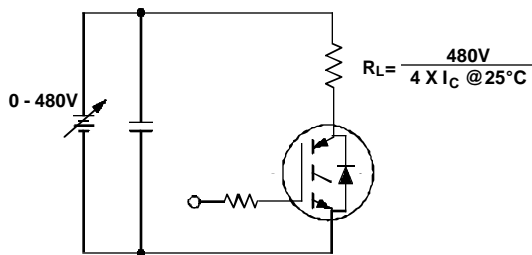

Figure 20. Pulsed Collector Current Test Circuit
- ① Repetitive rating: $V_{GE}=20V$; pulse width limited by maximum junction temperature (figure 20)